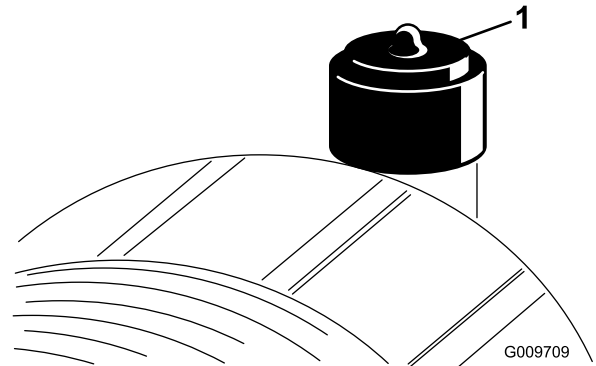

Figure 45
Service the air-cleaner filter only when the service indicator requires it (Figure 45). Changing the air filter before it is necessary only increases the chance of dirt entering the engine when you remove the filter.
2. Reset the indicator (Figure 45) if it shows red.